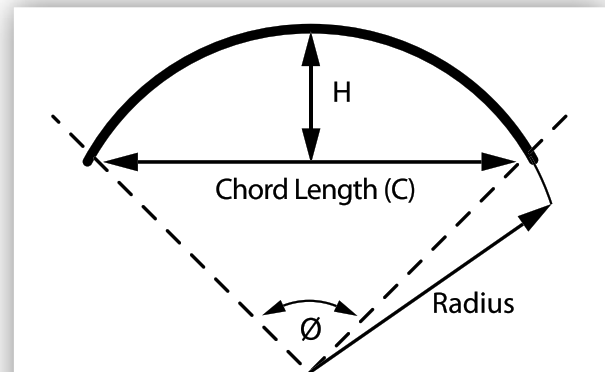

Figure 8: Curvature Measurements
2. Measure the corresponding chord length (C)
- refer to Figure 8.
3. Measure the corresponding centre offset (H)